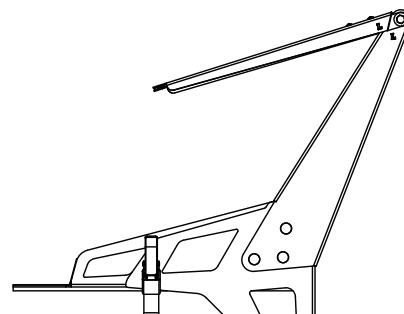

FIG. 9b
Note: For ease of assembly when connecting the Cyclone (E), we recommend tilting the connected Braces down [FIG 9b].